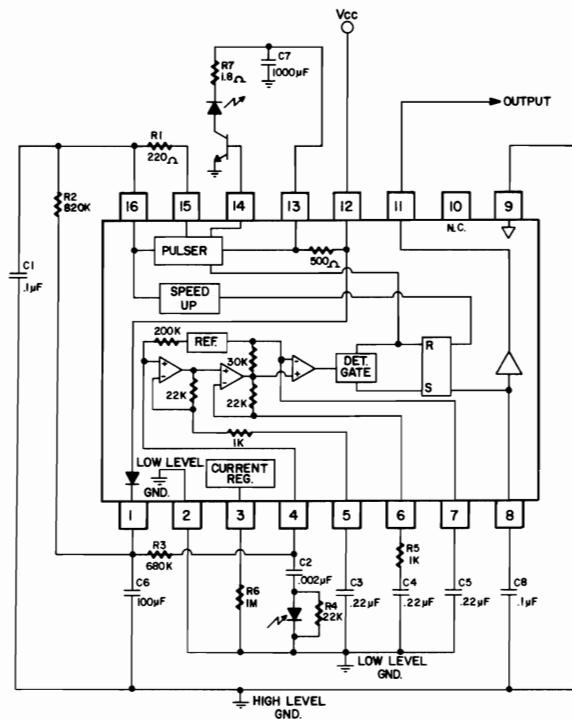

Figure 2. TYPICAL APPLICATION WITH EXTERNAL LED DRIVE
**ELECTRICAL SPECIFICATIONS:** Unless otherwise specified,  $V_{cc} = 6.0V$ ,  $T_A = 25^\circ C$ , and measurements are performed in the Applications Circuit of Fig. 2.